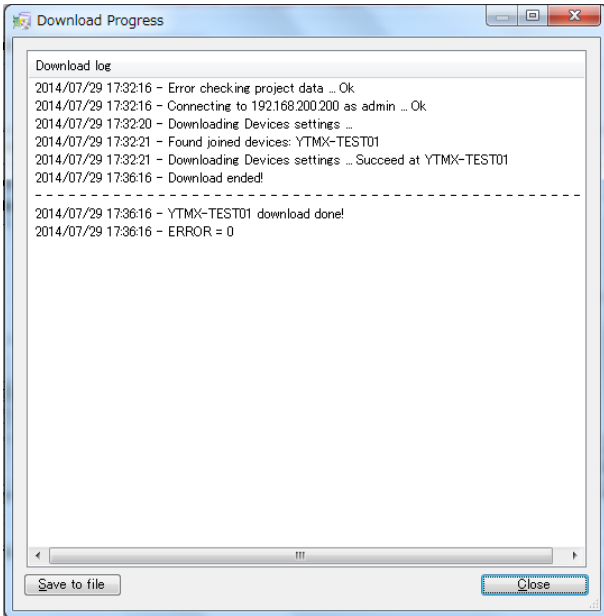

Figure 28
- ⑦ When downloading completes successfully, a dialog box shown in figure 28 appears. If the project is successfully downloaded to the built-in GW and the wireless device (YTMX580) is running, the GX20W and the wireless device will join automatically. If an error occurs, please run the download again.